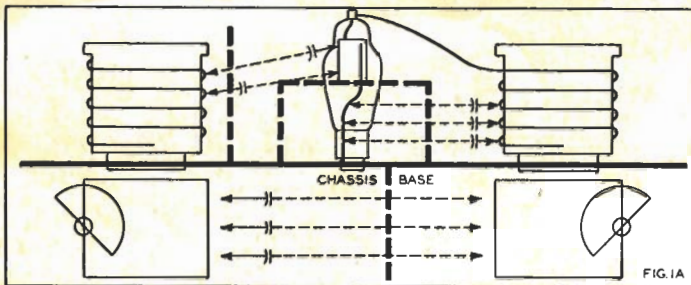

Fig. 1a. This customary layout for the 807 tube may result in feedback difficulties.
Fig. 1a illustrates the usual layout for 807's. Little wonder that it causes so much difficulty when the three prominent feed-back paths are recognized and understood. As the arrows show, direct electrostatic coupling exists between the grid and plate circuits, (1) from the plate tank coil to the grid lead inside of the tube stem, (2) from the plate electrode to the grid tank coil, and (3) from the plate tank condenser to the grid tank condenser. The heavy dashed lines indicate the shielding required to eliminate these sources of stray coupling.